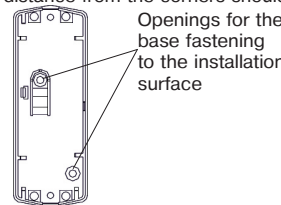

Figure 3 – The Detector Base
9.1 Prepare the openings for the detector base fastening. Mark out its fastenings using the Detector base (Figure 3) with the PCB removed.